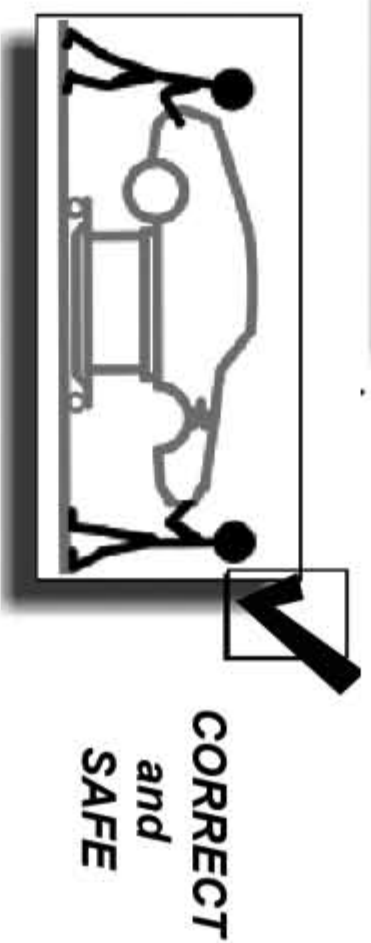

Fig 1
- 2) It is vital that you oil the air motor weekly with only "Air Tool" Oil. This will help keep your air motor in top condition and protect from compressor impurities. Simply place 2 drops of oil in to the air line. (see Fig 1).